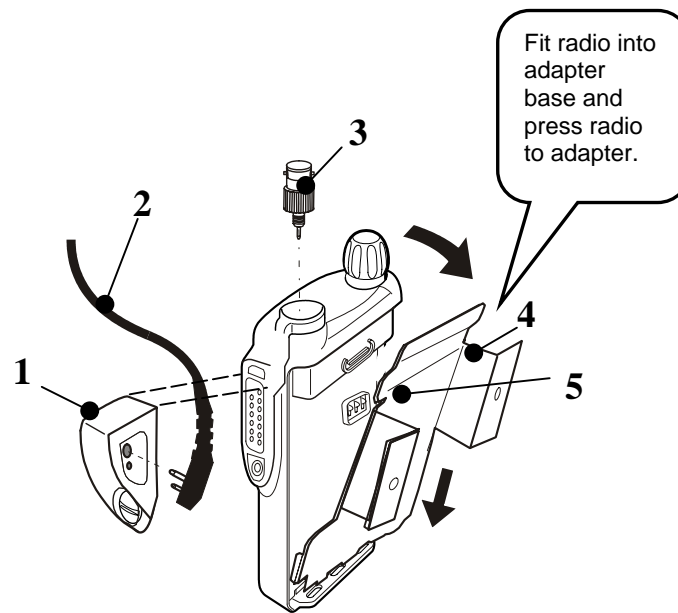

Figure 13-30 GP/HT/PRO Radio Installation
2. Connect the audio accessory adapter (HLN9716) (Item 1) to the radio. See Figure 13-30.